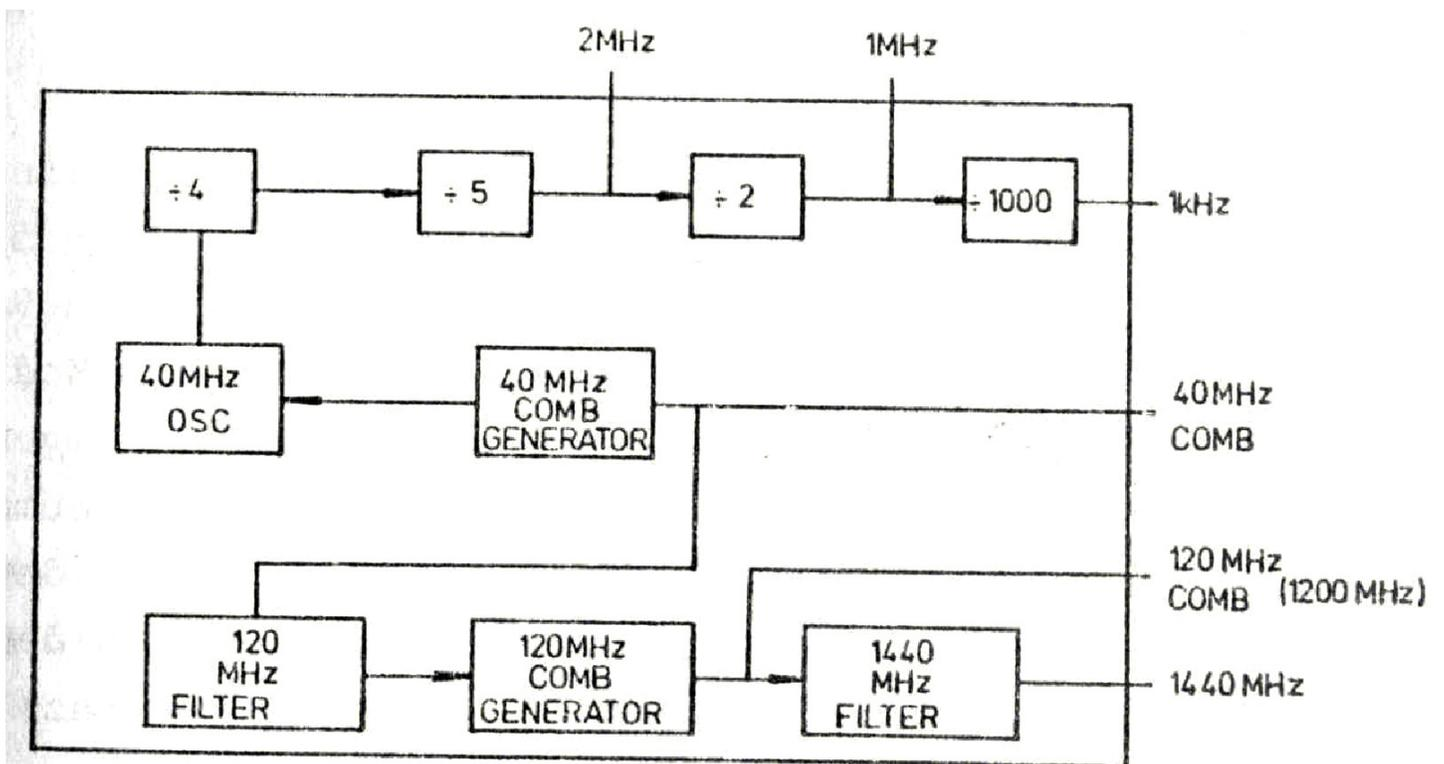

FIG. 14
4.12. Crystal-controlled reference frequency unit M6 (fig. 14)